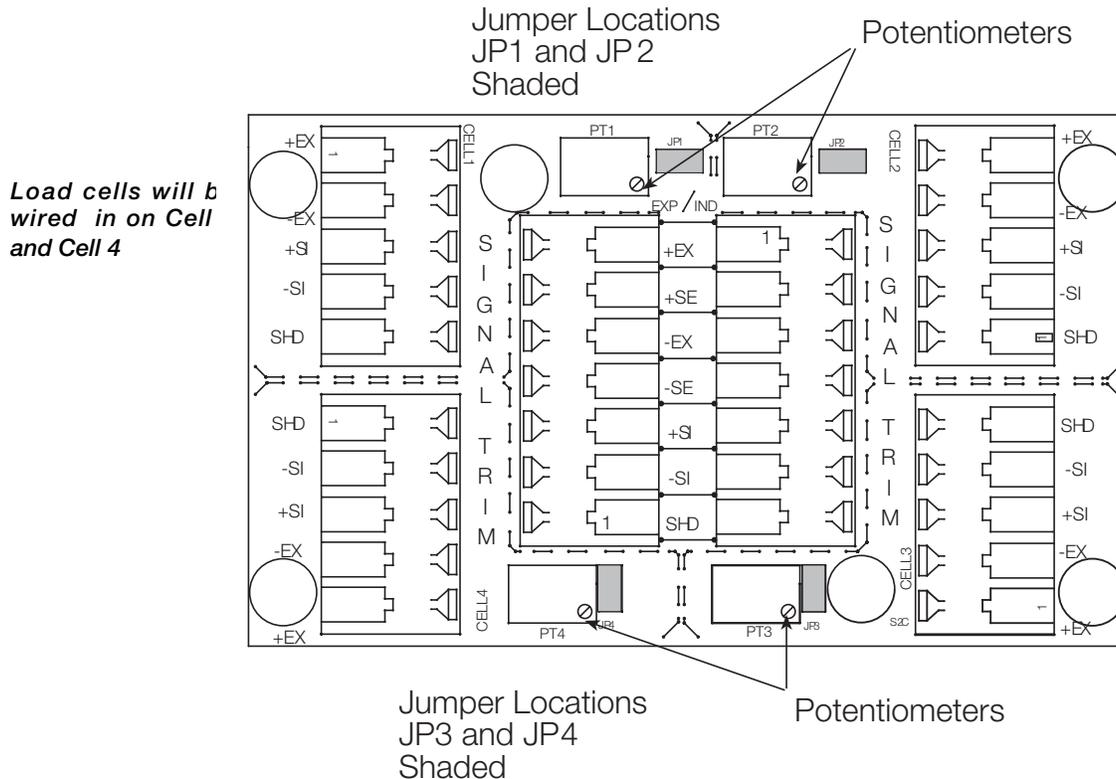

Figure 4-1. Potentiometer Locations
1. Make sure jumpers are in place to enable trimming of the cells corresponding to each load cell. See Figure 4-1 for the location of jumpers JP1, JP2, JP3, and JP4. Note that you need to remove jumpers for any unused cells.
Set all potentiometers fully clockwise to give maximum signal output from each cell (See Figure 4-1 for location of potentiometers).